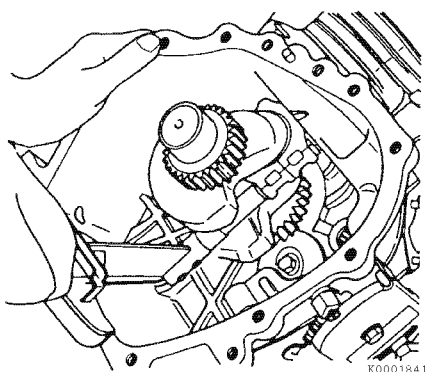

Figure 6-98
- Apply a light coat of clean engine oil to the rod cap bolts. Install the connecting rod cap. Tighten the connecting rod bolts **Figure 6-98** to the specified torque in two stages as shown in chart below. See *Special Torque Specifications* on page 6-17 for specifications.